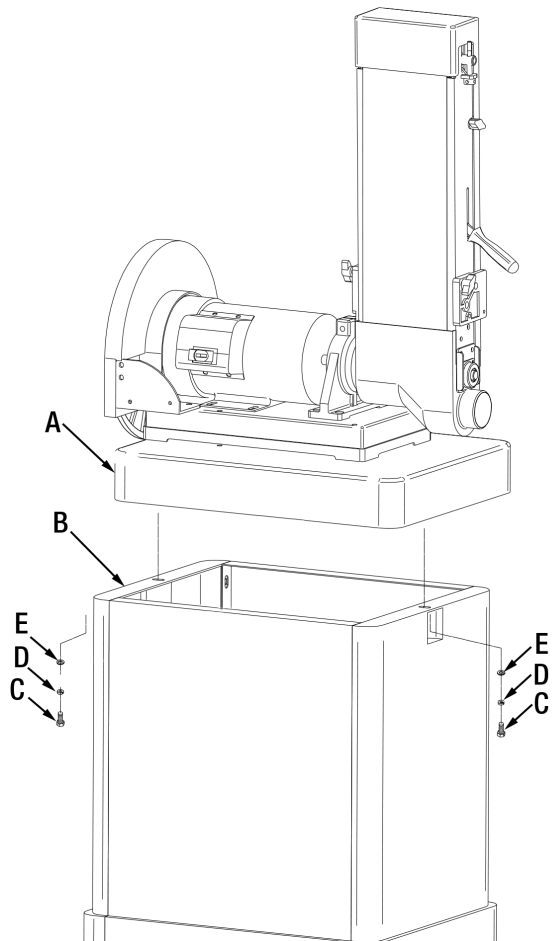

Figure 5
1. Position the cabinet stand (B) Fig.5 on a firm and level surface.
2. Lift the Belt and Disc sander (A) Fig.5 onto the top of the cabinet stand.
3. Align the mounting holes of the sander with those of the stand, secure sander to stand using 2 hex. bolts (C) Fig.5, 2 spring washers (D) and 2 washers (E) as shown.